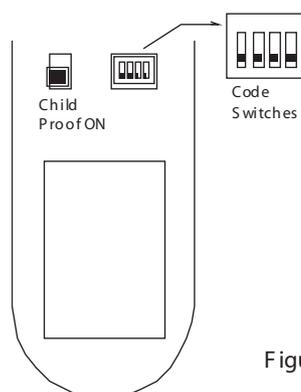

Figure 7
2. Slide the CHILD-PROOF switch to position marked C/P to activate the CHILD-PROOF function "Child-Proof*" will appear on the LCD. See Fig 7.
You can set a private code into your system to prevent accidental operation by another transmitter nearby. See Figure 7.